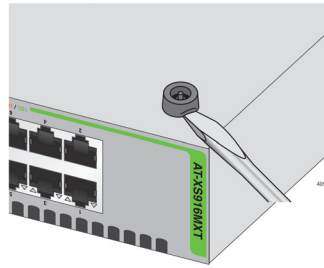

Figure 22. Removing the Rubber Feet
3. Using a flat-head screwdriver, remove the rubber feet from the bottom of the switch. See Figure 22.